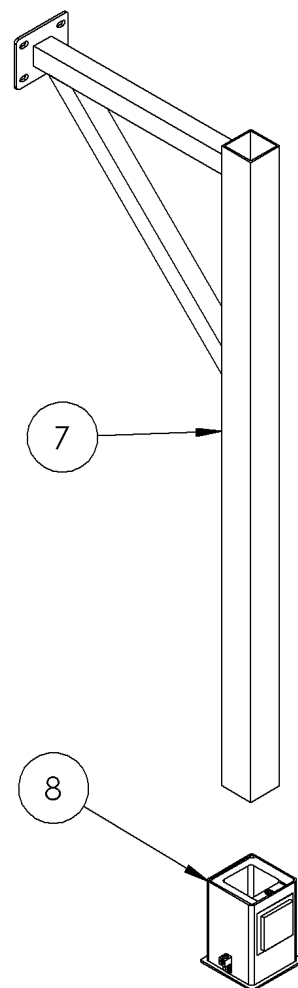

Fig. 5
1. Insert the vertical post (7) into the installed anchor (8), as shown in **FIGURE 5**. To make assembly easier, the basketball game can be assembled facing away from the pool and will be turned around once assembly is complete. (For anchor installation information see 06-674)